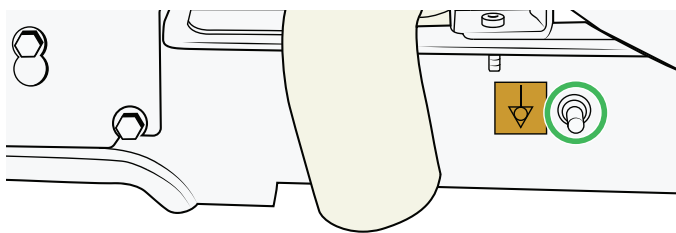

Figure 116
1. Hold one end of the ohmmeter against the earth connection point (reference point). See Figure 116.